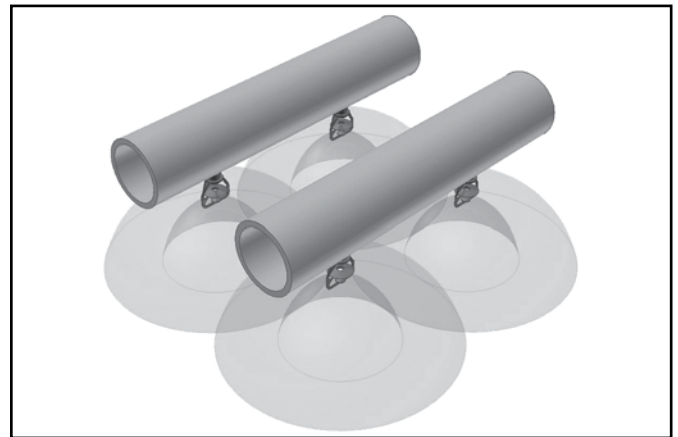

Figure 20: Nozzle Spray Pattern
3. Check to see if the nozzles are all spraying consistently and producing the spray pattern in Figure 20.